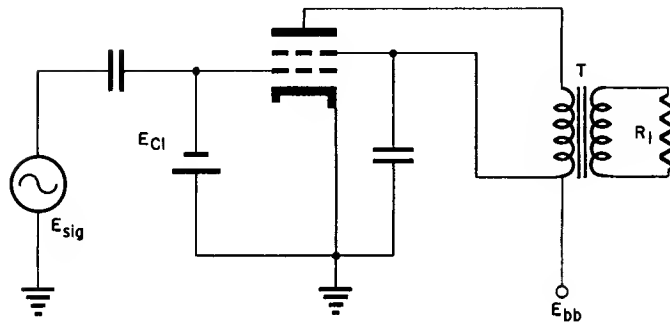

FIGURE 2
The illustration on use of curves presented here assumes that (1) fixed bias is used, (2) the load is resistive, (3) that good screen and plate regulation are used, (4) that rectification effects are negligible, (5) that a high efficiency output transformer is used and has been selected to present the proper load to the tube, (6) that the voltage drop in the primary of the output transformer is negligible, (7) the applied signal is sinusoidal. Despite these assumptions, reasonably good approximations may be obtained about the performance of the tube described as Class A₁ audio power output amplifier. Figure 2 shows one possible power amplifier circuit that could be used for a beam power tube applicable to the example given. The power supplied to the speaker will be less than that calculated by the amount of transformer efficiency.